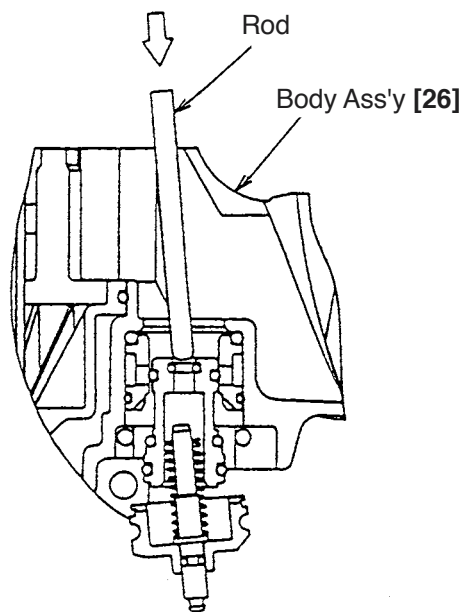

Fig. 21
- ① Remove the Exhaust Cover [7] in accordance with the procedure of 9-2 (1) on the previous page.
- ② Insert a thin rod into the Body Ass'y [26] through the top hole and push the top surface of Valve Piston (B) [105] as shown in Fig. 21. Then the parts forming the control valve section except Valve Bushing (B) [101], O-ring (S-18) [102] and Head Valve O-ring (I.D 16.8) [100] can be taken out.